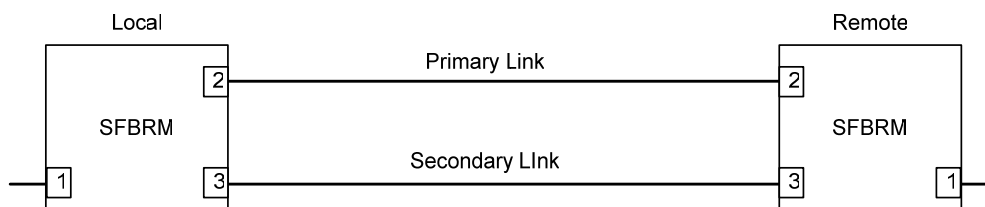

Figure 10: SFBRMs in Redundant Mode
These SFBRM SFP Devices support fiber redundancy. They have two (2) fiber SFP ports and one (1) copper port. When you tag the fiber ports as primary and secondary with redundancy enabled, any fault on the primary port results in the secondary port becoming operational. There is an option for reverting back to the primary once it has been restored, or you can continue using the secondary port—these are user selectable features. See Figure 10.